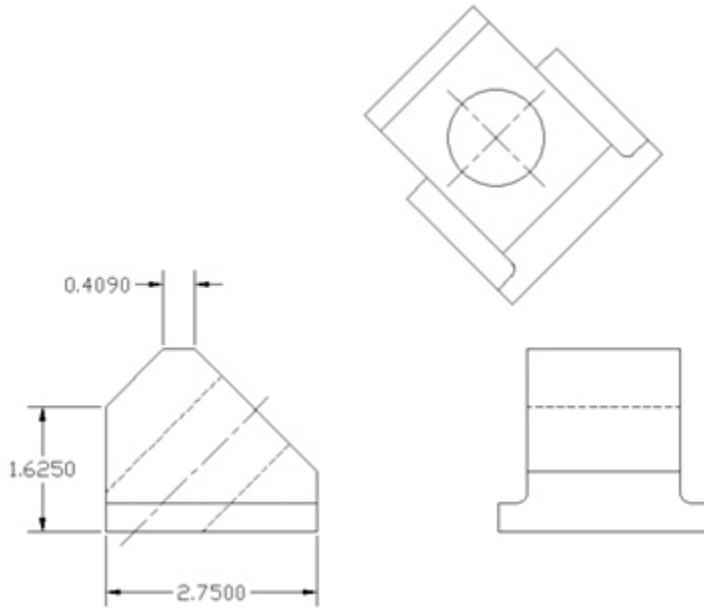

Figure 13-15
- 9 Save your drawing. Your drawing should look like Figure 13-15.